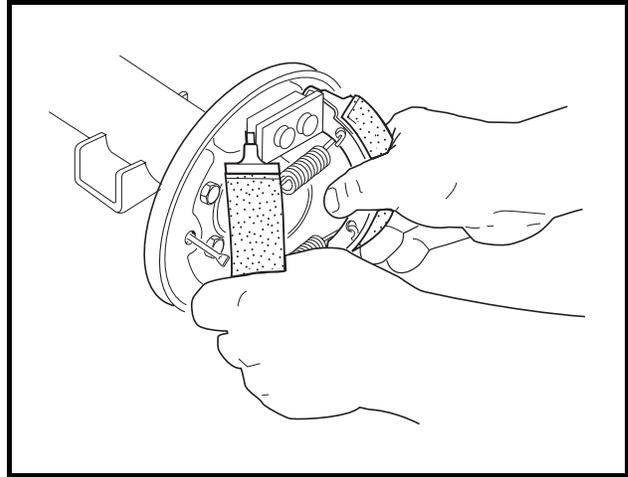

Figure 6-5 Remove Shoes
7. Grasp both brake shoes and pull them, with the springs, out of brake assembly (Figure 6-5, Page 6-3).